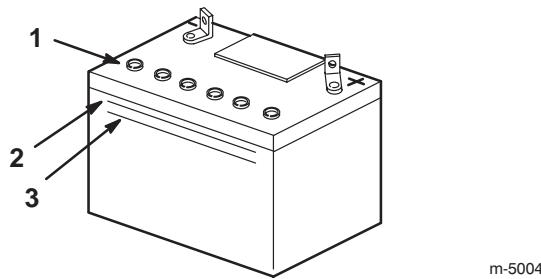

Figure 10
- Remove the vent caps from the battery (Fig. 10).
- Slowly pour electrolyte into each battery cell until the electrolyte level is up to the Upper line on the battery case (Fig. 10).
- Wait 5 to 10 minutes after filling the battery cells, then add electrolyte, if necessary, until the electrolyte level is up to the upper line (Fig. 10) on the battery case.